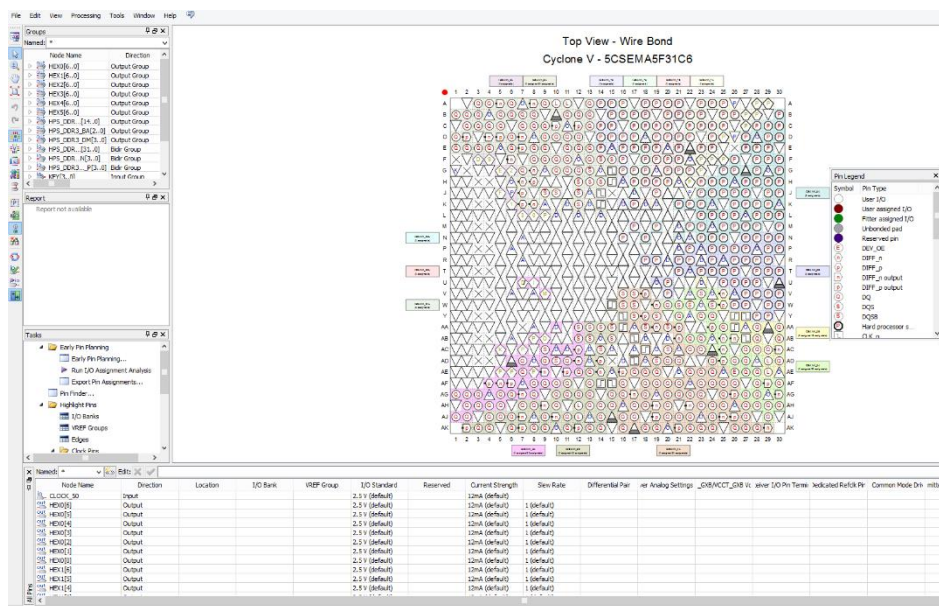

Figure 5. Empty pin assignment layout
32. After instantiating your embedded system design into your project, you have to make the necessary pin assignments for your embedded system AND add pin assignments specific to the Altera DE1-SOC board. Select Assignments > Pin Planner to see the current pin assignments. It should look like Figure 5, where the pins do not have any assignments.